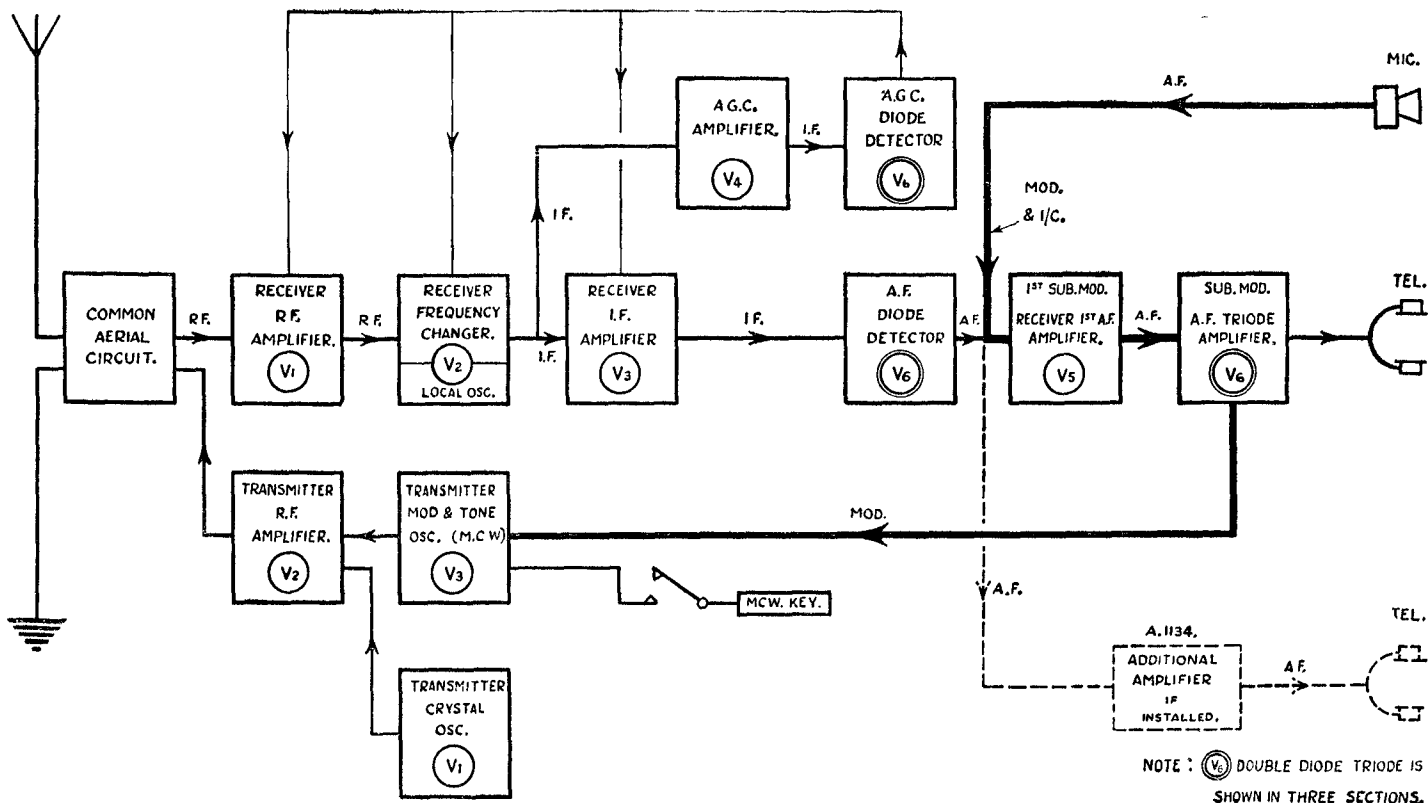

FIG. 5A.—BLOCK SCHEMATIC T.R. 1196
7. Circuit Arrangements (Fig. 5A).—*Transmitter unit.*—A crystal controlled Pierce oscillator drives an anode and screen modulated class "C" R.F. amplifier. An electro-magnetic microphone is used; the output from the microphone is amplified before feeding to the modulator valve, by the last two A.F. stages of the receiver (not by A.1134).